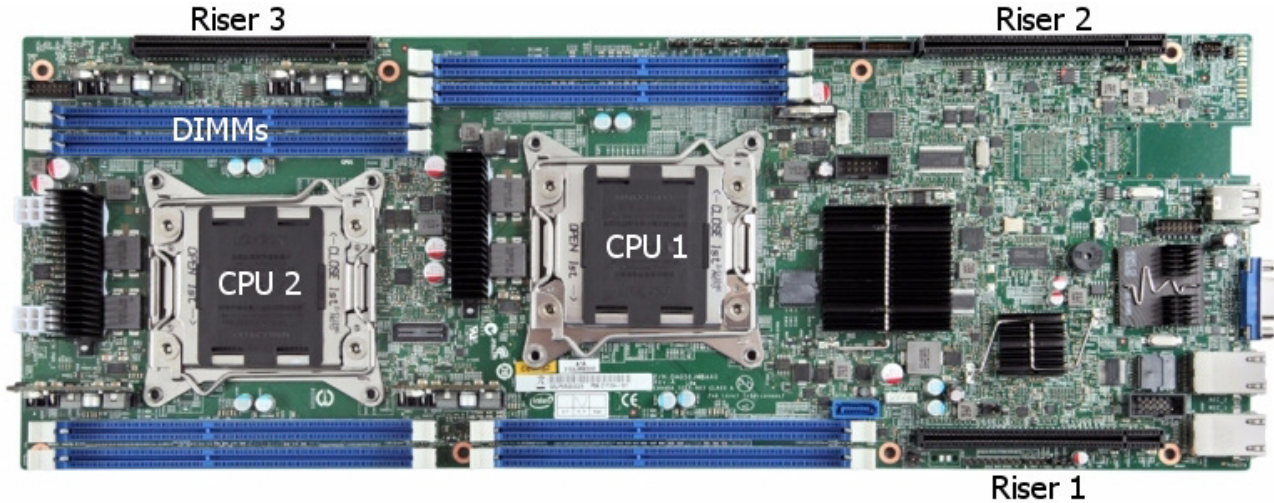
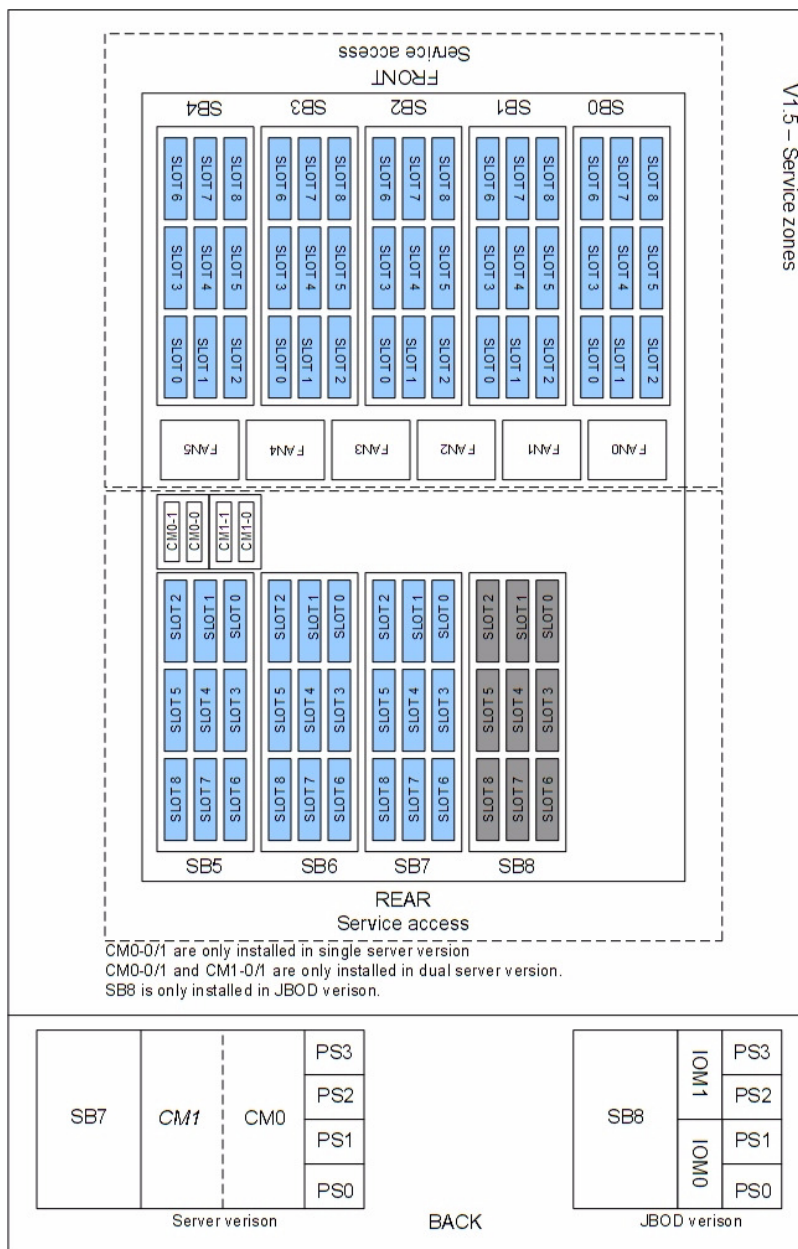
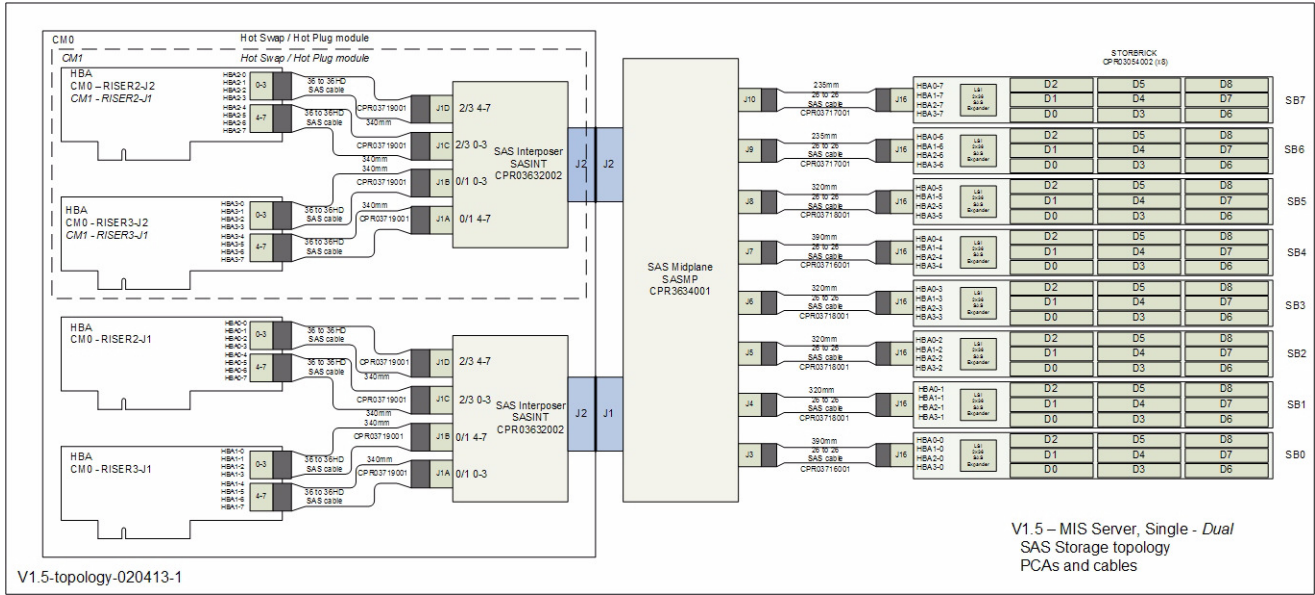

Figure 1-30 CPU and PCIe Riser Layout
Figure 1-38 System Layout
Figure 1-39 SAS Storage Topology, PCAs and Cables
- Up to 4 HBAs per server module (for up to a total of 8 across both server modules) in a dual server system—these can be half-height (2.12"), half-depth (3.375"), 2 internal max and/or a maximum of 2 external. (See Figure 1-30 on page 24)
Figure 1-30 shows the CPU and riser layout. The first CPU handles Riser 1 and 2. The second CPU manages Riser 3. HBAs populated on Riser 3 are internal facing SAS HBAs only, which connect to the StorBricks (Figure 1-39).
Figure 1-38 on page 31 is a map of the physical location of the modules, including top and rear views. In the MIS Server 1.5, the computer server module(s) take(s) the place of the JBOD's 9th StorBrick and I/O modules. Power supplies remain in the same location regardless of platform type (server or JBOD). Figure 1-39 on page 32 shows the SAS storage topology, PCAs and cables.